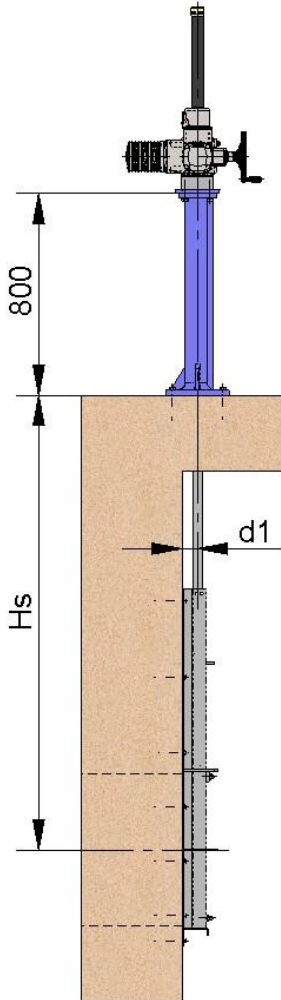

fig. 21
- The standard floor stand is 800 mm high (fig. 21).